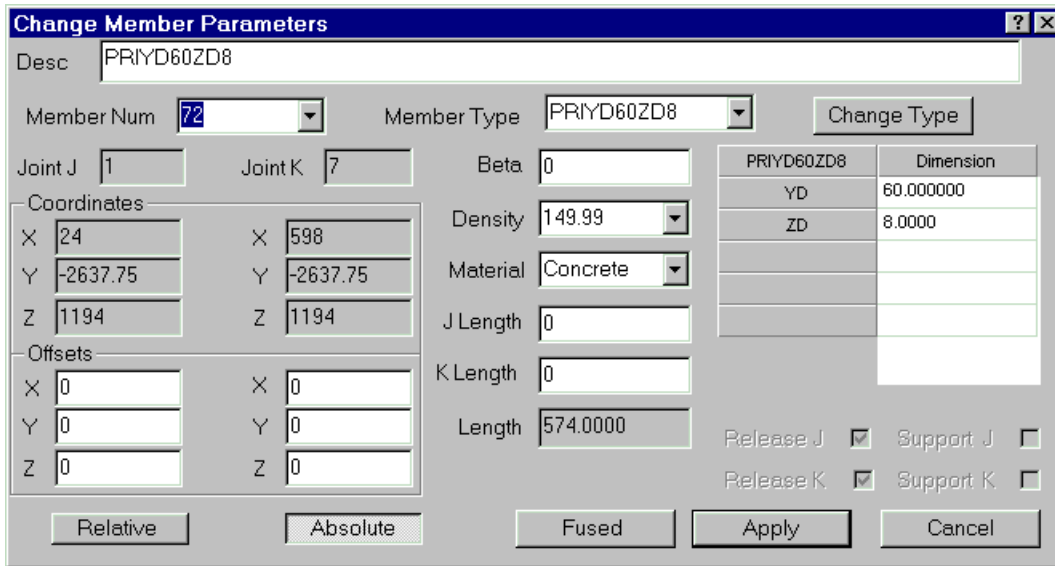

Figure T5.4
To accomplish our first objective, we will use the most powerful command in *Structural Desktop*, the **Change Member Parameters** dialog box, **Figure T5.4**.
The **Change Member Parameters** dialog box, as shown in **Figure T5.4**, is used for most operations you will want to do to members. This dialog box gives all current information regarding the members and permits you to change the rotation (Beta), density, type, length, and location of either or both ends. It allows you to offset the members in all three axes. The current data on the selected member should match the dialog box above. This includes a description of the member (PRIYD60ZD8, meaning prismatic, Y depth 60", Z width 8") and the member number (72). We use the convention in **Structural Desktop** of referring to the start of a member as the "J" end, and the end of the member as the "K" end. The numbers of joints J and K from the original input file are displayed. (1, 17)